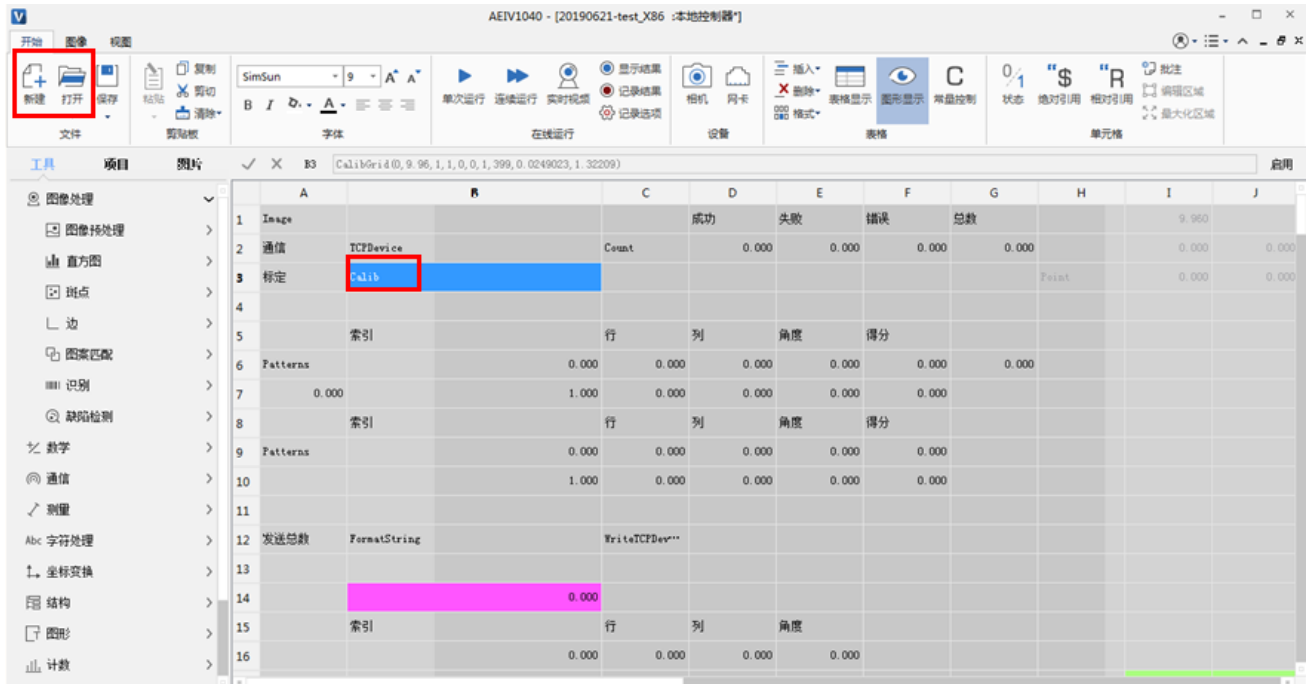

Figure 5-20 AEIV_studio new or import project interface
Step8. Click <New> to create a new project. Or click <Open> to import the previously created project. As shown in Figure 5-20.